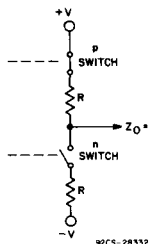

Fig. 3 — Constant output impedance of a buffered gate.
—Buffered—Fig. 3 depicts the buffered output stage and shows the MOS transistor as switched on with a channel resistance R ; R is the same value for the n-switch closed or the p-switch closed.
as buffered (B) types or unbuffered (UB) types by virtue of the squared or rounded transfer characteristics of Figs. 3 and 4, respectively. Even though both types have a single NMOS and single PMOS output transistor, the rounded transfer characteristic of the unbuffered inverters makes them UB types by virtue of:
Output Impedance-Refer to Figs. 3 and 4 and accompanying descriptions of the constant output impedance of buffered gates and the variable output impedance of unbuffered gates. Note that both buffered and unbuffered RCA 2-, 3- and 4-input gates are designed to meet the same maximum output impedance; output current ratings (IOL and IOH) have the same minimum limit on RCA data sheets.